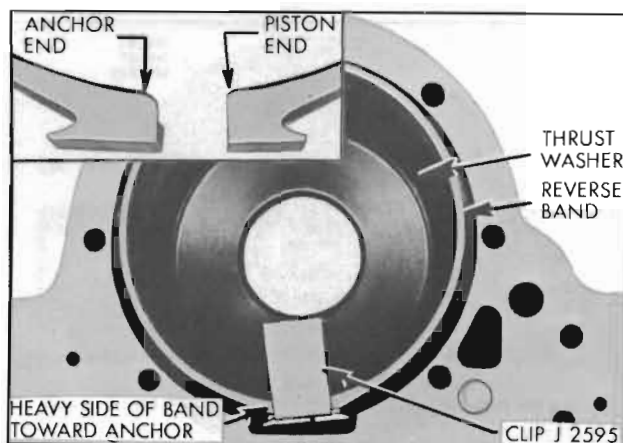

Figure 5-96—Ring Gear Thrust Washer and Reverse Band Installed
2. Compress ends of reverse band with band installing clip, J-2595 and install in case. When installing band make certain that the heavy side of the band is in the correct position so that it will attach to the reverse anchor and not to the strut. See Figure 5-96. Remove the clip.